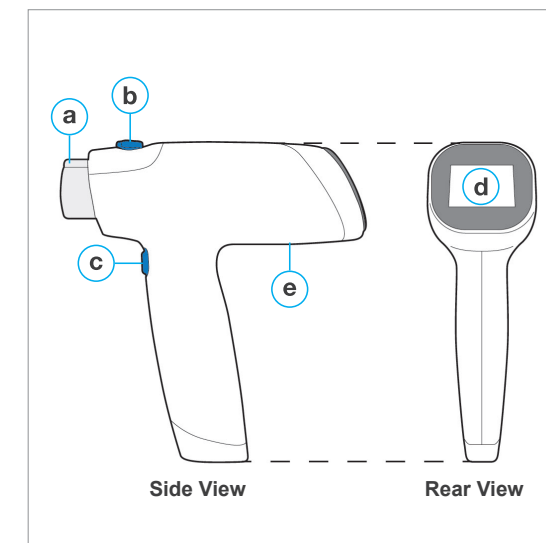

Figure 3 The parts of the Handset
2. **CELLECTRA® 5PSP Handset:** a reusable component, which is battery powered and delivers the electroporation pulse pattern. The Handset accepts the Array (Figure 3).